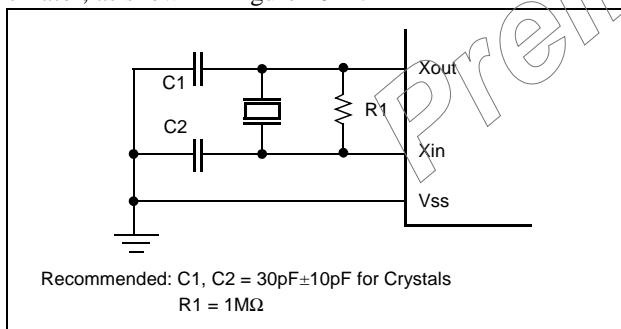

Figure 10-2 Oscillator Connections
X_{IN} and X_{OUT} are the input and output, respectively, an inverting amplifier which can be set for use as an on-chip oscillator, as shown in Figure 10-2 .
- Note:** When using a system clock oscillator, carry out wiring in the broken line area in Figure 10-2 to prevent any effects from wiring capacities.